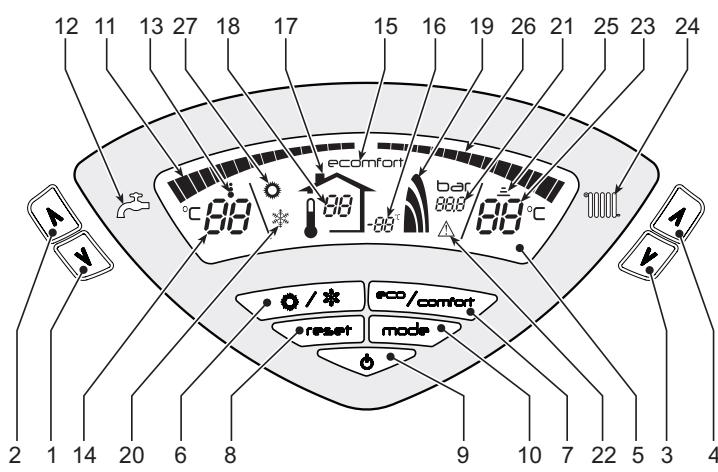

fig. 1 - Control panel
A heating demand (generated by the Room Thermostat or Remote Timer Control) is indicated by flashing of the symbol **Heating Mode** (detail 25 - fig. 1).
The heating graduation marks (detail 26 - fig. 1) light up as the heating sensor temperature reaches the set value.
A DHW demand (generated by drawing domestic hot water) is indicated by flashing of the symbol **DHW Mode** (detail 13 - fig. 1). Make sure the Comfort function (detail 15 - fig. 1) is activated
The DHW graduation marks (detail 11 - fig. 1) light up as the DHW sensor temperature reaches the set value.
When hot water tank heating is activated (default setting), the COMFORT symbol (detail 15 - fig. 1) is activated on the display, and when off, the ECO symbol (detail 15 - fig. 1) is activated on the display
Press the **on/off** button (detail 9 - fig. 1) for 1 second.
To relight the boiler, press the **on/off** button (detail 9 fig. 1) again for 1 second.
- Press the ON/OFF button (9 - fig. 1)
Press the **summer/winter** button (detail 6 - fig. 1) for 1 second.
The display activates the Summer symbol (detail 27 - fig. 1): the boiler will only deliver domestic hot water. The antifreeze system remains activated.
To deactivate the Summer mode, press the **Summer/Winter button** (detail 6 - fig. 1) again for 1 second.
Use the **heating buttons** (details 3 and 4 - fig. 1) to adjust the temperature from a min. of 30°C to a max. of 80°C.
Use the **DHW buttons** (details 1 and 2 - fig. 1) to adjust the temperature from a min. of 10°C to a max. of 65°C.
When the optional external probe is installed, the control panel display (detail 5 - fig. 1) shows the actual outside temperature read by the probe. The boiler control system works with "Sliding Temperature". In this mode, the heating system temperature is controlled according to the outside weather conditions in order to ensure high comfort and energy saving throughout the year. In particular, as the outside temperature increases the system delivery temperature decreases according to a specific "compensation curve".
With Sliding Temperature adjustment, the temperature set with the heating buttons (**details 3 and 4 - fig. 1**) becomes the maximum system delivery temperature. It is advisable to set a maximum value to allow system adjustment throughout its useful operating range.